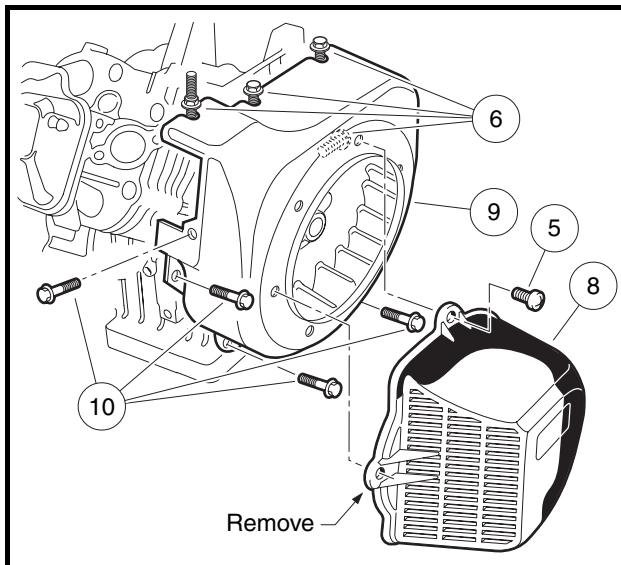
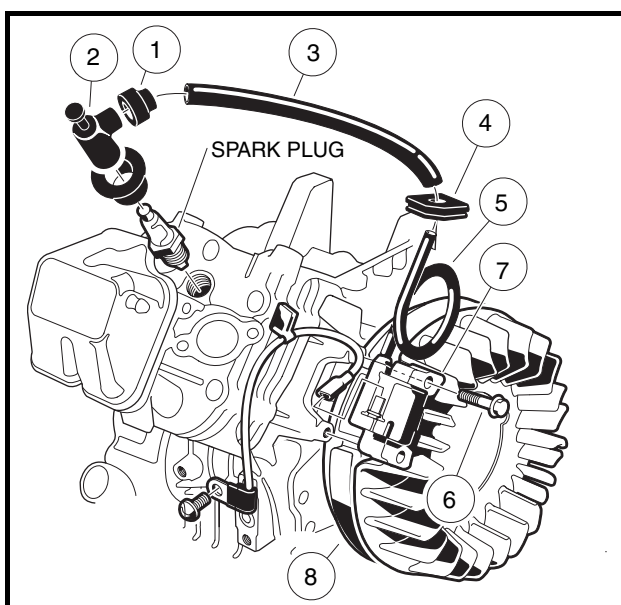

Figure 12-25 Remove Fan Housing
Figure 12-27 Clean Grommet
7. Remove the pan head bolts (5) securing the fan shroud (8) to the fan housing (9) (**Figure 12-25, Page 12-25**).
8. Loosen, but do not remove, the three bolts (6) attaching the fan housing as shown.
9. Remove the remaining four bolts (10) attaching the fan housing (**Figure 12-25, Page 12-25**), then while opening the housing, detach the spark plug wire grommet (4) from the housing (**Figure 12-27, Page 12-25**).
1. Remove the rubber gasket (1) on the plug cap (2) by rolling back the gasket onto the spark plug wire.
2. Remove the cap (2) from the wire by turning the cap counterclockwise three or four revolutions while gently pulling it off the wire (**Figure 12-27, Page 12-25**).
3. Remove the gasket (1) and protector tube (3) from the old coil. **See following NOTE.**
13. When installing fan housing, make sure the top front corner of the housing is above the upper cylinder shroud. The front edge of the fan housing should be behind the lower cylinder shroud. Align the slots in the housing with the flanged bolts (6) loosened earlier (**Figure 12-25, Page 12-25**).
14. Install the four flange bolts (10) that secure the fan housing to the engine crankcase. Tighten all mounting bolts (6) and (10) to 90 in-lb (10.2 N·m).
15. Install the fan shroud with four pan-head bolts (5) and tighten to 50 in-lb (5.7 N·m).